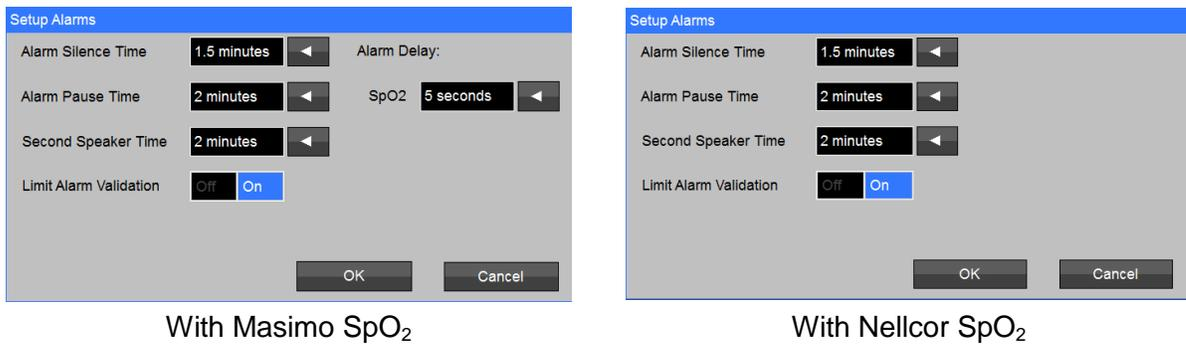

Figure 47: Setup Alarms Screens
- Enter the Setup Alarms window (refer to Figure 47) to configure the following global alarms: